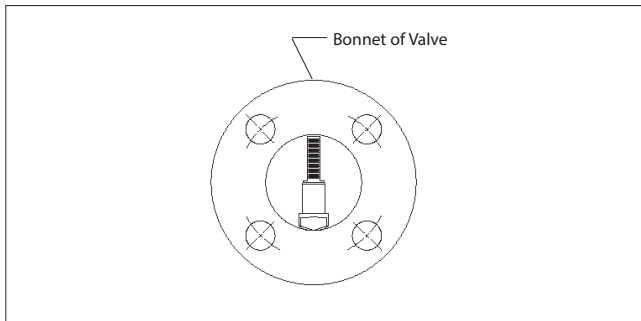

Figure 7. Stem Orientation
- D. Roll the entire valve on its flanges until the bonnet faces up. Then rotate the stem $\frac{1}{4}$ turn. The stem subassembly should look like (Figure 7) as seen from the insert end of the valve.